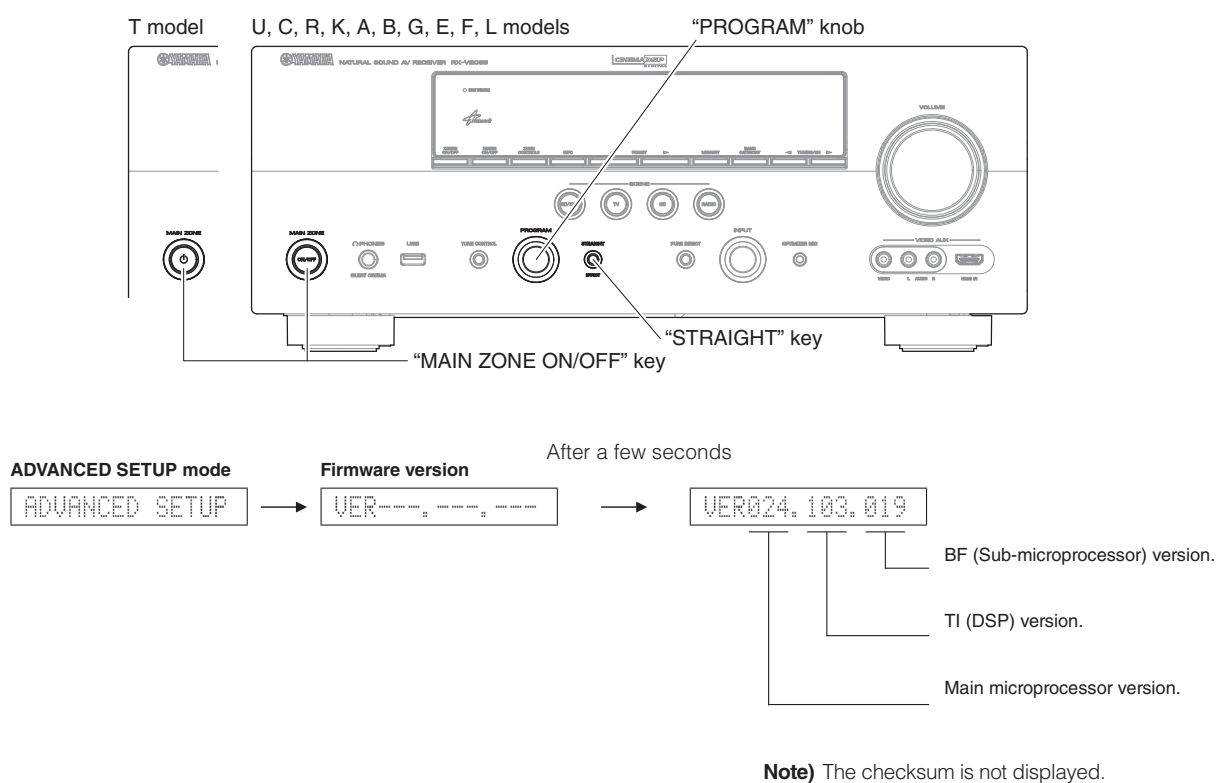

Fig. 1
The ADVANCED SETUP mode is activated, and "ADVANCED SETUP" is displayed. (Fig. 1)
2. Rotate the "PROGRAM" knob and select the "VER---.---.---". (Fig. 1)